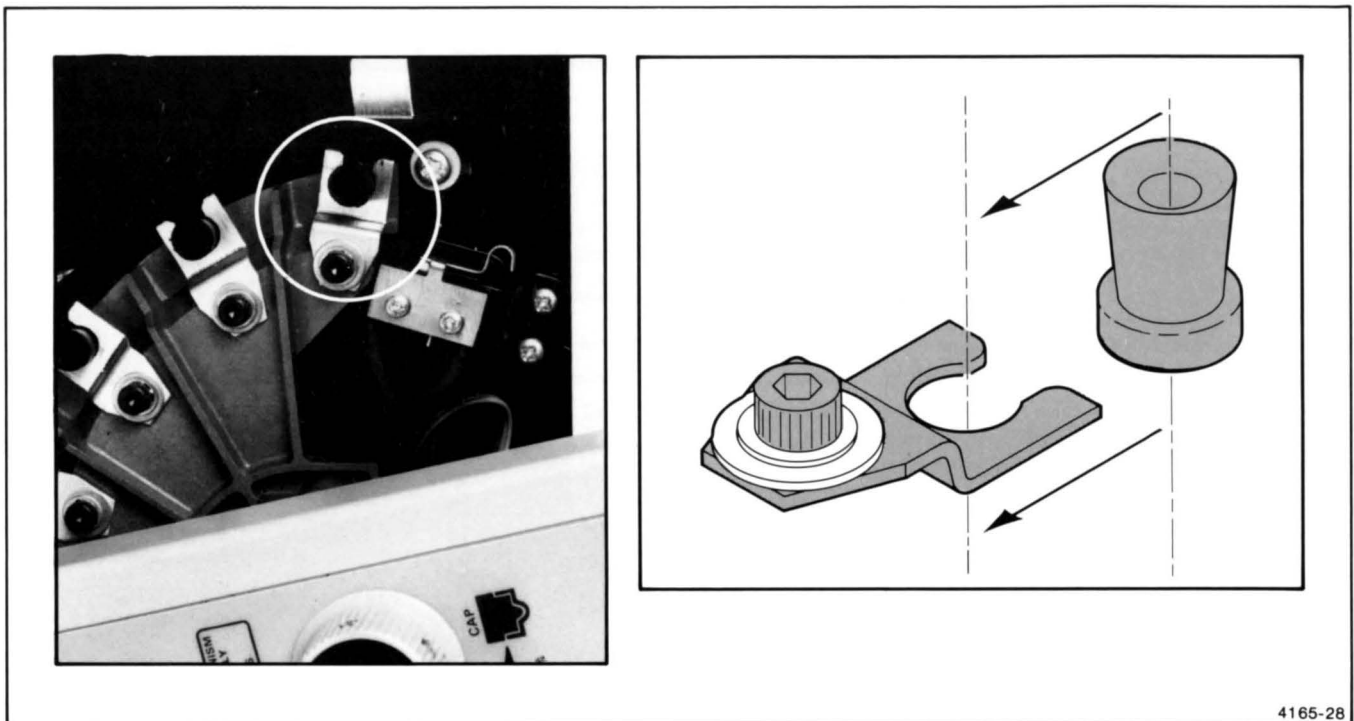

Figure 3-20. Replacing Pen Caps (Option 31 Only).
2. **Use** your fingers to slide the rubber pen caps out of their brackets (see Figure 3-20).